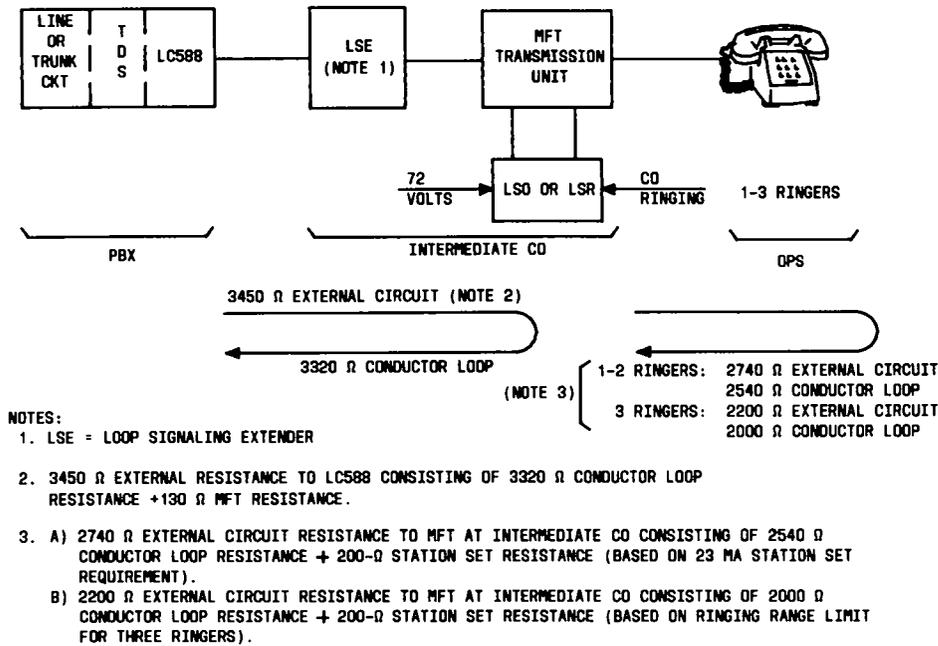

Fig. 37—PBX OPS Line With Repeater
**4.97** The Off-Premises Stations (OPS) feature requires connection arrangements as illustrated in Fig. 33, 34, 35, 36, and Fig. 37.
only/loop signaling repeater. Where only one repeater is necessary, a 2-to-2 intermediate repeater should be used at the serving office or intermediate CO for a 2-wire off-premises station installation (Fig. 35 and 36). The 2-to-2 terminal repeater should not be used at either the PBX or station in a 1-repeater application. If more than one repeater is needed between the station and its CO, 4-wire facilities should be used. Typical 2- and 4-wire metallic facility installations are shown on Fig. 37. Different combinations